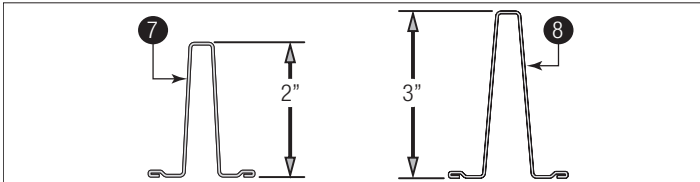

Figure 21
IMPORTANT: Measure the height of your strut(s) to determine if you have 2" Struts ⑦ and or 3" Struts ⑧. See Figure 21.